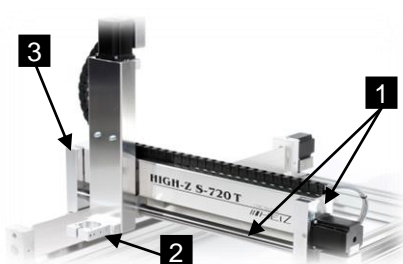

Abb. 9a: Y-Carriage
- The two linear guides (Fig. 9a / 1) and the Trapezoidal Thread Spindle located on the Y-bridge (Fig. 9a / 3) and represent the Y-axis. Along the Y-Bridge is the tool holder (Fig. 9a / 2) which can be moved with a suitable tool (43H7 holder)